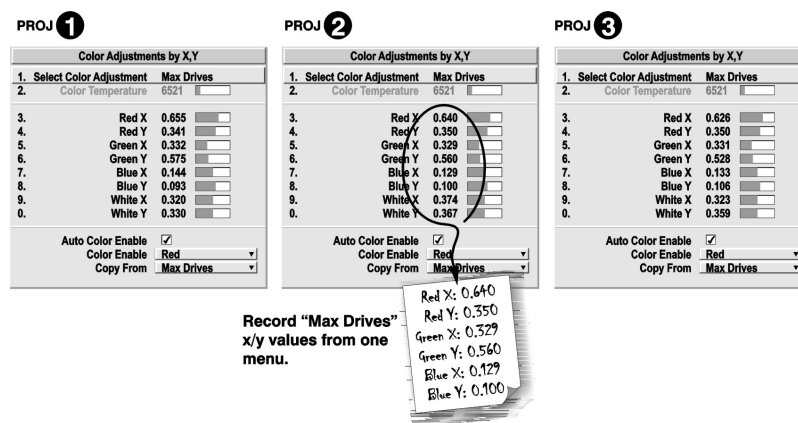

Figure 3-40 Jot Down a Set of "Max Drives" X/Y Values
4. Display the **Color Adjustments by X, Y** menus for all projectors. Each menu shows the x/y coordinates defining the "Max Drives" color gamut for this projector. Write down the values shown in one (any) of the displays. Refer to Figure 3-40. Or use "Copy From" to copy these into a "User" gamut for this projector.